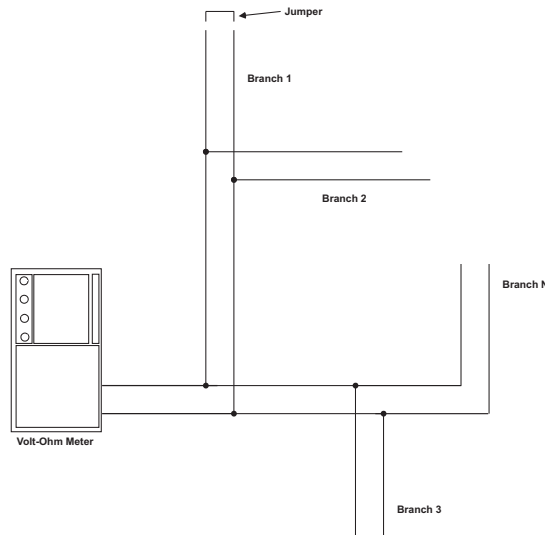

Figure 2-25. Measuring CLASS-B SLC Wiring Resistance
1. Short the ends of each branch line one at a time. Measure the resistance from the terminating points at the control unit to the end of the branch line. Refer to Figure 2-25.